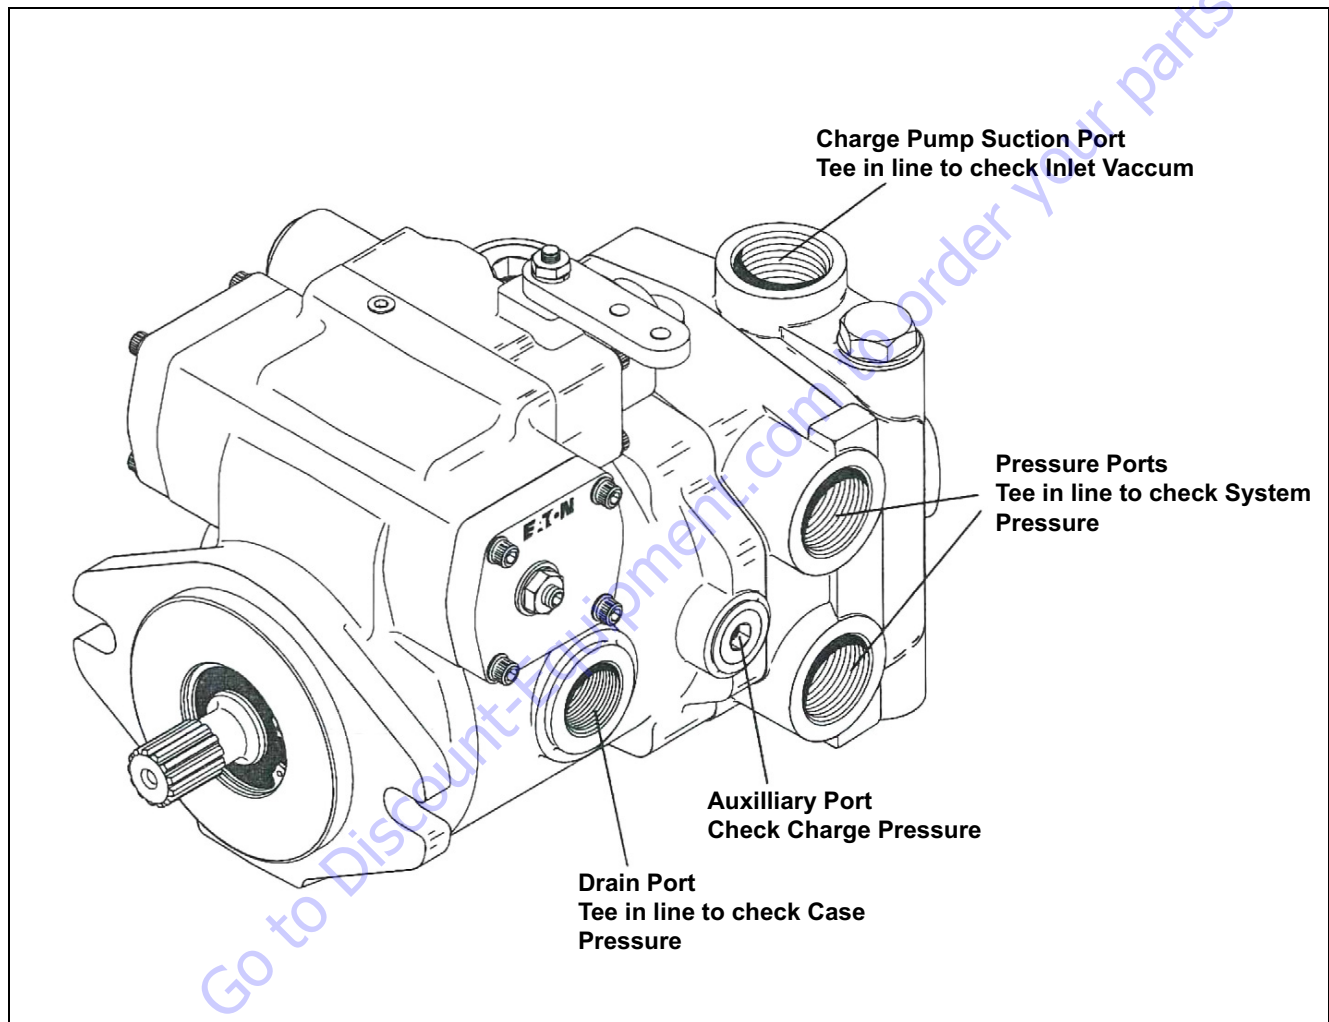

Figure 5-145. Gauge Locations
- a. See Figure 5-145. for location of pressure gauge installation
- a. See Figure 5-145. for location of charge pressure gauge installation